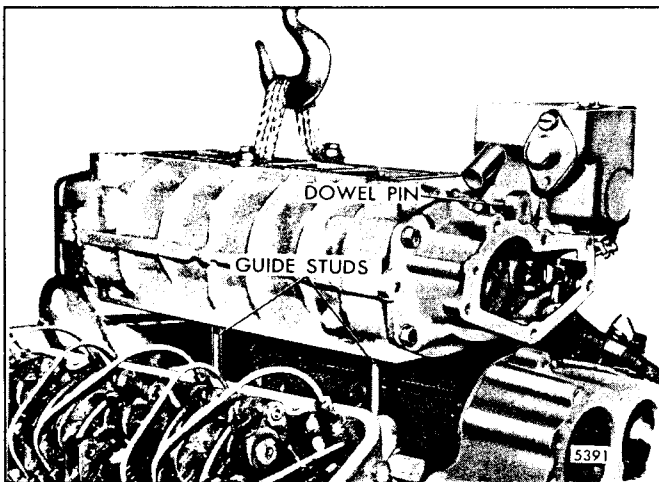

Fig. 4 - Removing/Installing Blower (6V-53 Engine)
12. Remove the four bolts and flat washers which attach the blower to the top face of the cylinder block. Lift the blower and governor assembly from the engine (Fig. 4).